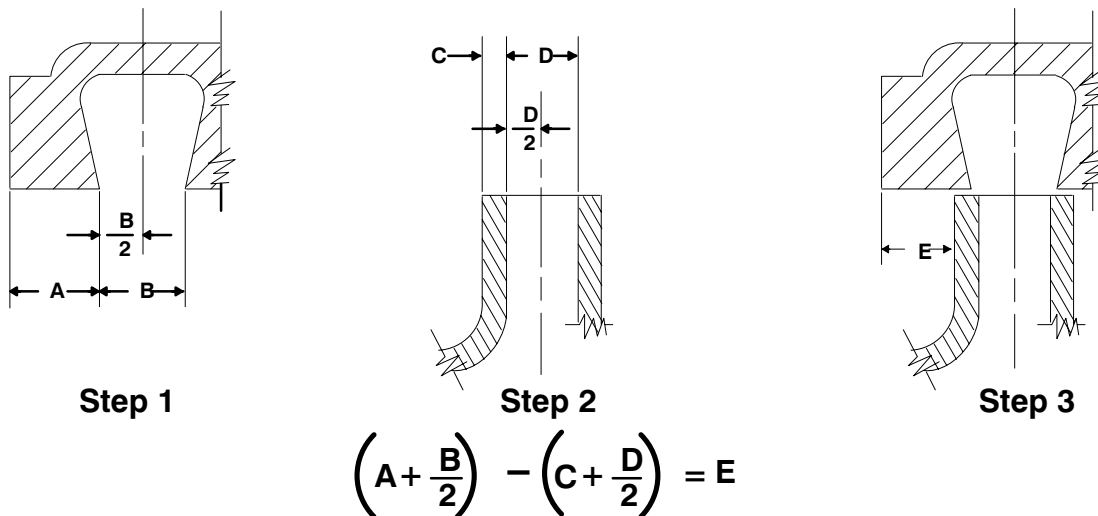

Figure 4. Centering Impeller Within Pump Casing
For maximum pump efficiency, the impeller must be centered within the volute scroll. To verify impeller positioning, measure the pump casing and impeller as shown in Figure 4. Use these measurements to calculate the required impeller location (dimension E). Add or remove impeller adjusting shims (22) to obtain dimension E.